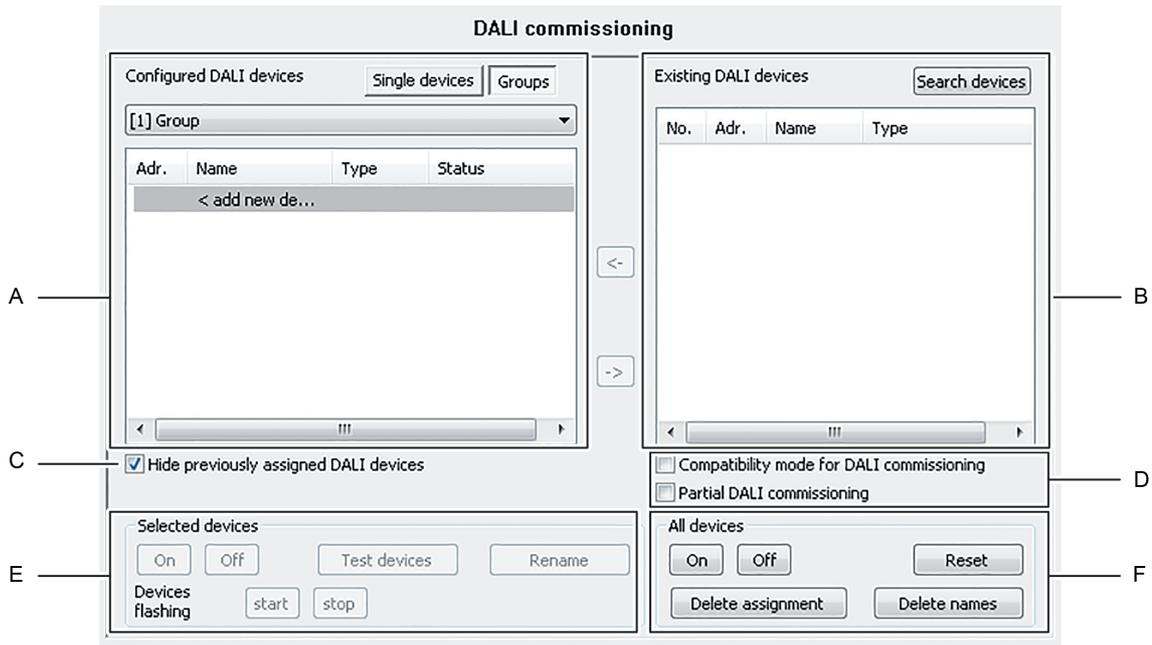

Figure 63: Panes of the commissioning environment
The commissioning environment of the plug-in is divided up into two panes. The right-hand pane lists the operating devices found in the DALI system. The left-hand pane displays the created groups. The assignment of the DALI devices to the programmed groups or single devices also takes place there. (figure 63).
For special cases, it is possible to assign operating devices for group control to more than just one DALI group. In the standard case, assignment of a DALI operating device is only possible in one device. This makes device assignment clear, and the unique assignment means that there are no group overlaps and, as a result, no influencing of configuration and feedback values. If necessary, multiple group assignment can be enabled as an alternative. To do this, the checkbox "Hide previously assigned DALI devices" (C) must be deselected in the Commissioning dialog of the plug-in.(figure 63). This means that it is then possible to assign DALI operating devices to more than just one group during online commissioning.